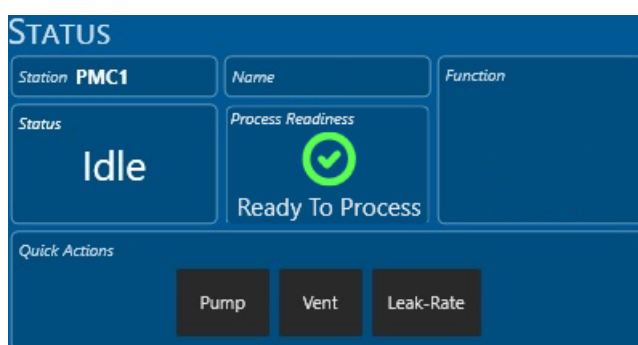

Figure 4-17 Status panel
- 2 To leak test the chamber using the previously used settings, click the **Leak-Rate** button in the Status panel (see Figure 4-17).